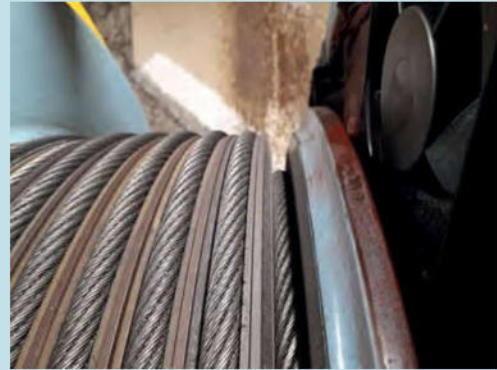

Figure 4: Excessive damage to a sheave groove
- ♦ All sheave grooves should be inspected for excessive wear or damage. Sometimes, soft sheave material will allow the ropes to imprint the sheave groove. Figures 4 and 5 show examples of excessive damage to sheave grooves. All these damages should be found and prevented well before such a condition exists. This will happen if proper maintenance is in place.